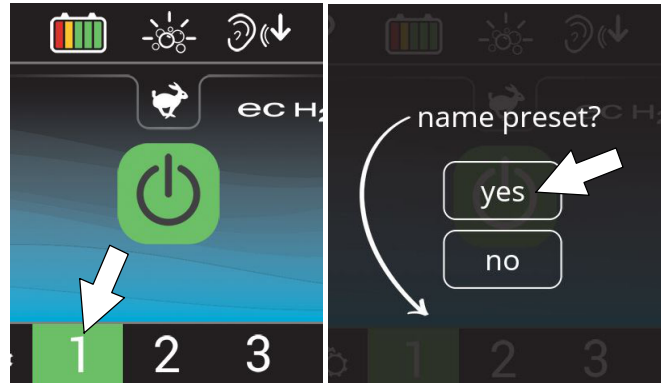

FIG. 55
2. Then press and hold a zone button until a screen prompts you to name the new preset zone. Select “yes” to name the preset zone (Figure 55).